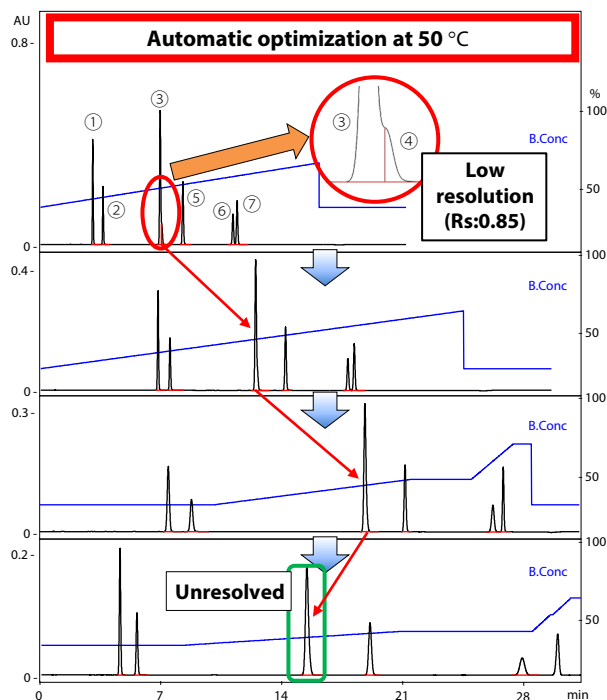
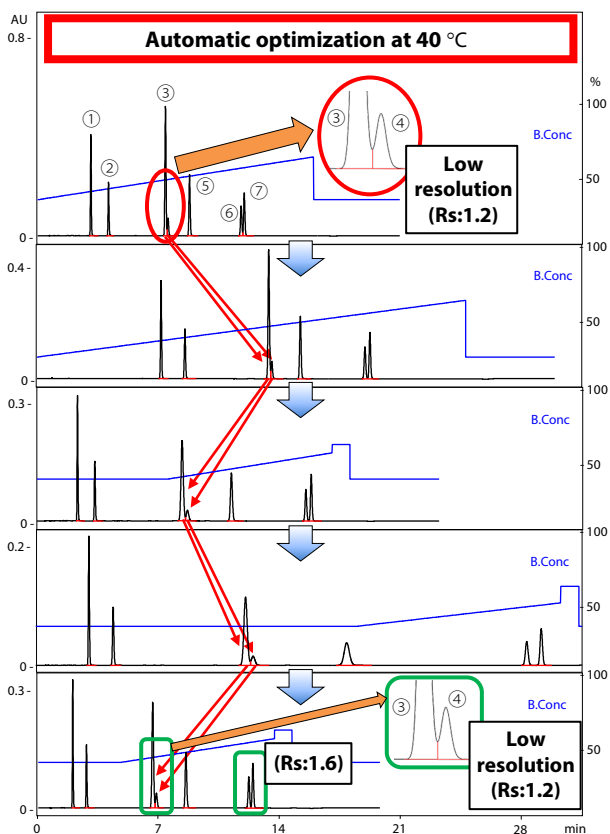

Fig. 5 Result of Automatic Optimization at 50 °C
Fig. 4 Result of Automatic Optimization at 40 °C
The results of automatic optimizations of gradient conditions at different column oven temperatures are shown in Fig. 3~5, respectively. Considering the minimal resolution of 1.5, peaks ⑥ and ⑦ were not well separated in the initial analysis when the column oven temperature was 30 °C (red circle in Fig. 3). Similarly, peaks ③ and ④ were not well separated at column oven temperatures of 40 °C and 50 °C (red circles in Fig. 4 and Fig. 5). Following the initial analysis, the gradient conditions that met the resolution criteria were automatically explored using “improvement of gradient conditions by AI” and “analysis under improved conditions”. At 30 °C, the optimized gradient conditions successfully met the resolution criteria (green box in Fig. 3). However, at 40 °C and 50 °C, even with automatic optimization, peaks ③ and ④ failed to meet the resolution criteria. These results indicate that the optimal column oven temperature is 30 °C, as it achieves the minimal resolution of 1.5 for all peaks. As demonstrated, the automatic optimization of gradient conditions can be applied consecutively to multiple column oven temperatures, enabling users to identify suitable conditions that meet the criteria, regardless of their experience in chromatography.